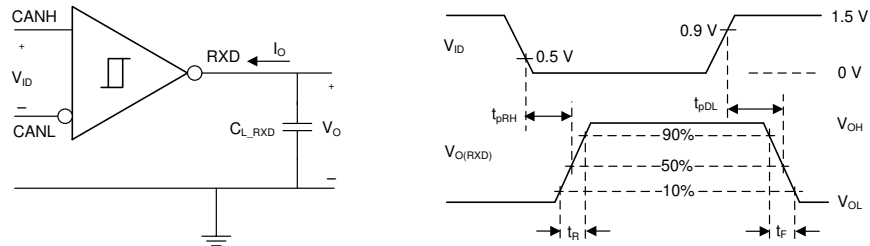
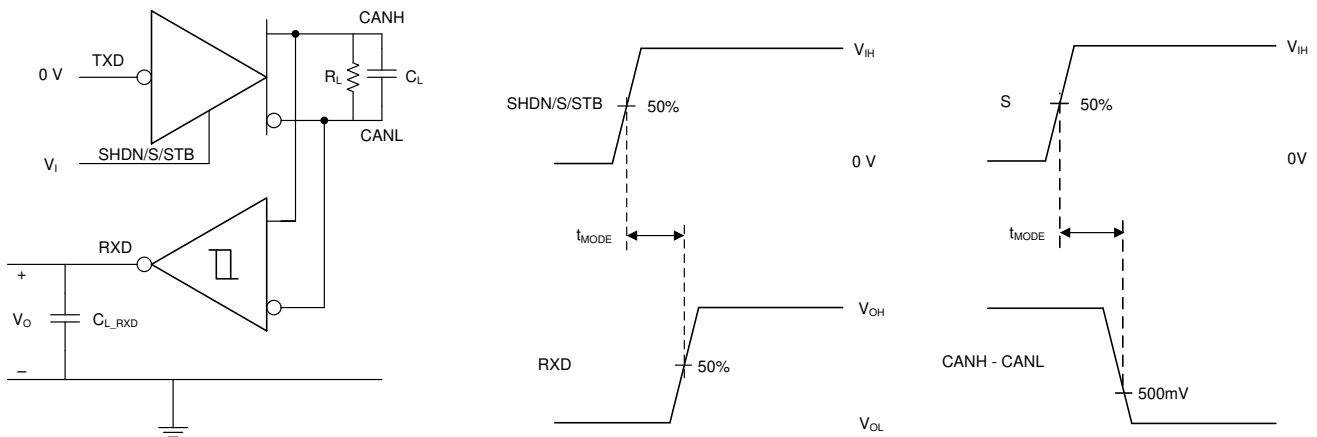

图 6-3. Receiver Test Circuit and Measurement
图 6-4.  $t_{MODE}$  Test Circuit and Measurement, from Normal to Shutdown, Standby or Silent Mode
The CAN bus has two logical states during operation: recessive and dominant. See 图 6-3 and 图 6-4.
Transceivers with low power Standby Mode have a third bus state where the bus terminals are weakly biased to ground via the high resistance internal resistors of the receiver. See 图 6-3 and 图 6-4.
(1) Mirrors bus state: low if CAN bus is dominant, high if CAN bus is recessive.
(2) See 图 6-3 for bus state.